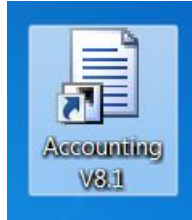

Figure 1-1 Accounting icon
- B. Click on the **Accounting** icon located on your desktop, see Figure 1-1.